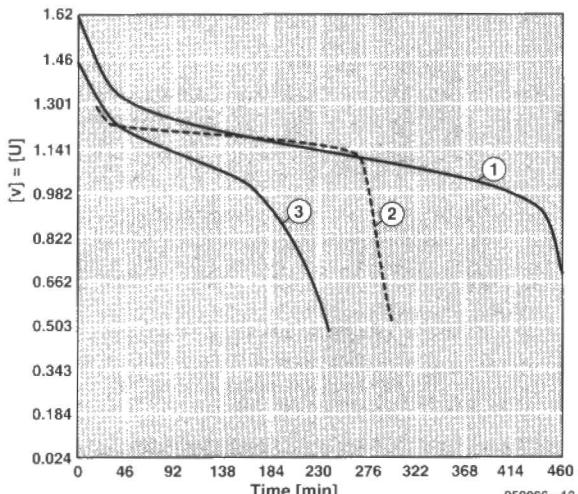

Fig. 3. Discharge curves of three HP7 batteries: (1) new secondary alkaline manganese; (2) NiCd; (3) well-used secondary alkaline manganese.
The discharge curves of a new alkaline manganese battery (1), a 700 mAh NiCd battery (2) and a well-used alkaline manganese battery (3) are shown in **Fig. 3**. All of them were discharged via a 6.8 Ω resistor (discharge current about 150 mA). It is seen that even in the case of a new alkaline cell the terminal voltage is higher than that of a NiCd cell only during the first 30% or so of the discharge time (at average discharge currents).